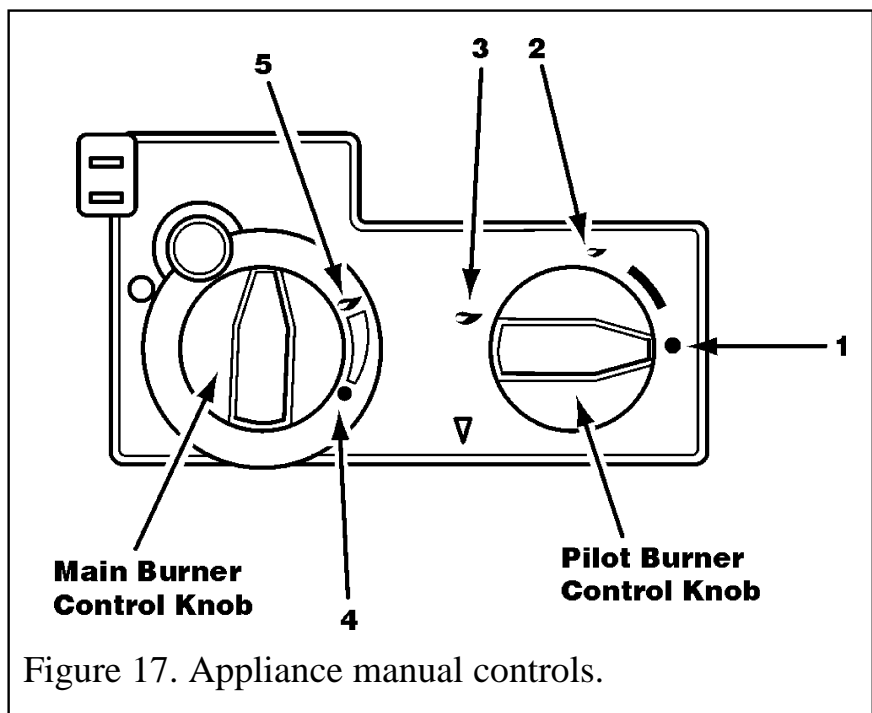

Figure 17. Appliance manual controls.
1. Ensure that the pilot burner control knob is in the OFF position (1 in figure 17).
2. Depress the pilot burner control knob and turn anti-clockwise to the ignition position (2 in figure 17) to activate the piezo ignition system. A 'click' will be heard and the pilot should light. If the pilot does not light immediately, repeat the above procedure, keeping the knob depressed for several seconds in order to purge any air from the system.
1. Once the pilot light is established, light the main burner by turning the pilot burner control knob anti-clockwise to the "main burner on" position (3 in figure 17), and by then turning the main burner control knob to the high position (5 in figure 17).
2. Check the full range of heat settings by turning the main burner control knob slowly between the high position and the low position (4 in figure 17).
Turn the main burner control knob fully clockwise. Alternatively turn the pilot burner control knob clockwise to the ignition position (2). Refer to figure 17.
Rotate the pilot/burner control knob clockwise to position 1, as shown in figure 17.
3. In order to disable the handset, but still leave the pilot alight, turn the pilot burner control knob to the ignition position (2 in figure 17).
4. Turn the fire off by rotating the pilot burner control knob to the OFF position (1 in figure 17).